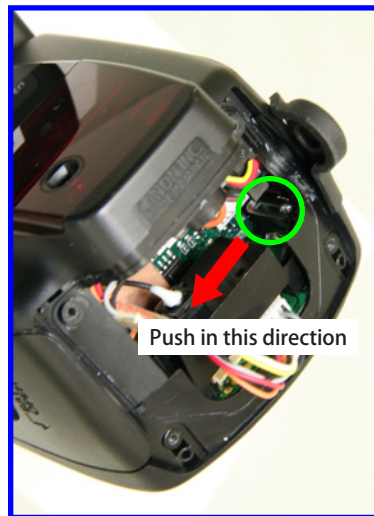

Fig. 006 Position of the Cover Lock Plate
- ① Rotate the Flash Head horizontally and remove the two screws on the top of the Front Cover.
- ② Push the Cover Lock Plate on the Rear Cover inward to remove the Front Cover. (Fig. 006)